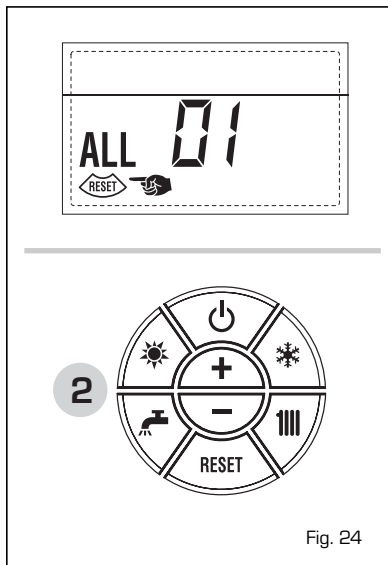

Fig. 24
**- LOW WATER PRESSURE ANOMALY ALARM 02 (fig. 24/a)**